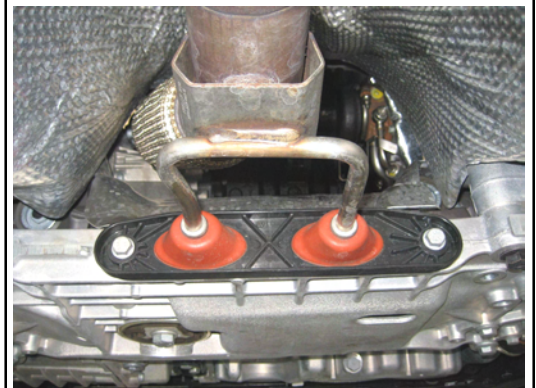

Figure 2
3. Unbolt the rubber isolator bracket shown in figure 2 from the vehicle .